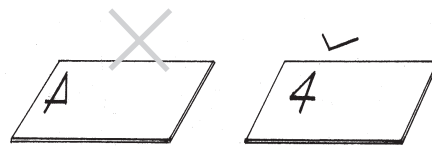

Fig. 9.7
- Always place the slide with the specimen side up (Fig. 9.7).